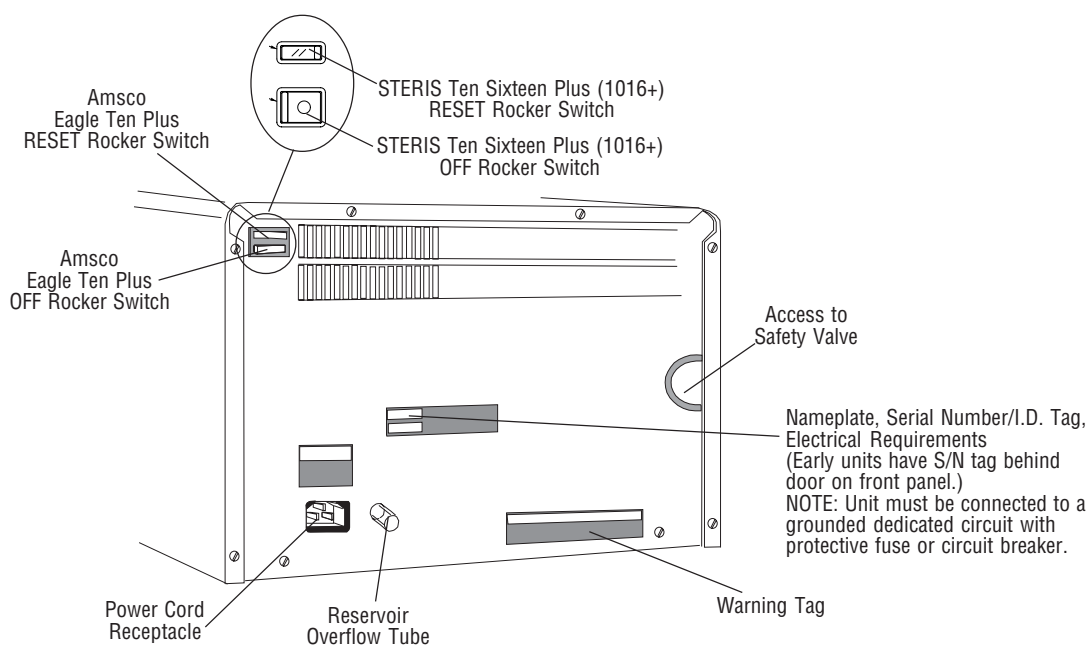

**Figure 3B-3**
- **Chamber Pressure Gauge** - displays the current pressure inside the chamber (0-60 psig). If this pressure gets too high, it is released through the safety valve (rear panel, see Figure 3B-3).
- **Printer** (optional) - records all cycle data on 5.72 cm (2-1/4") wide, single-ply thermal paper (see Figure 3B-4). See Section 7.14 for paper ordering information and Section 5.1.4.4 for paper reloading information.